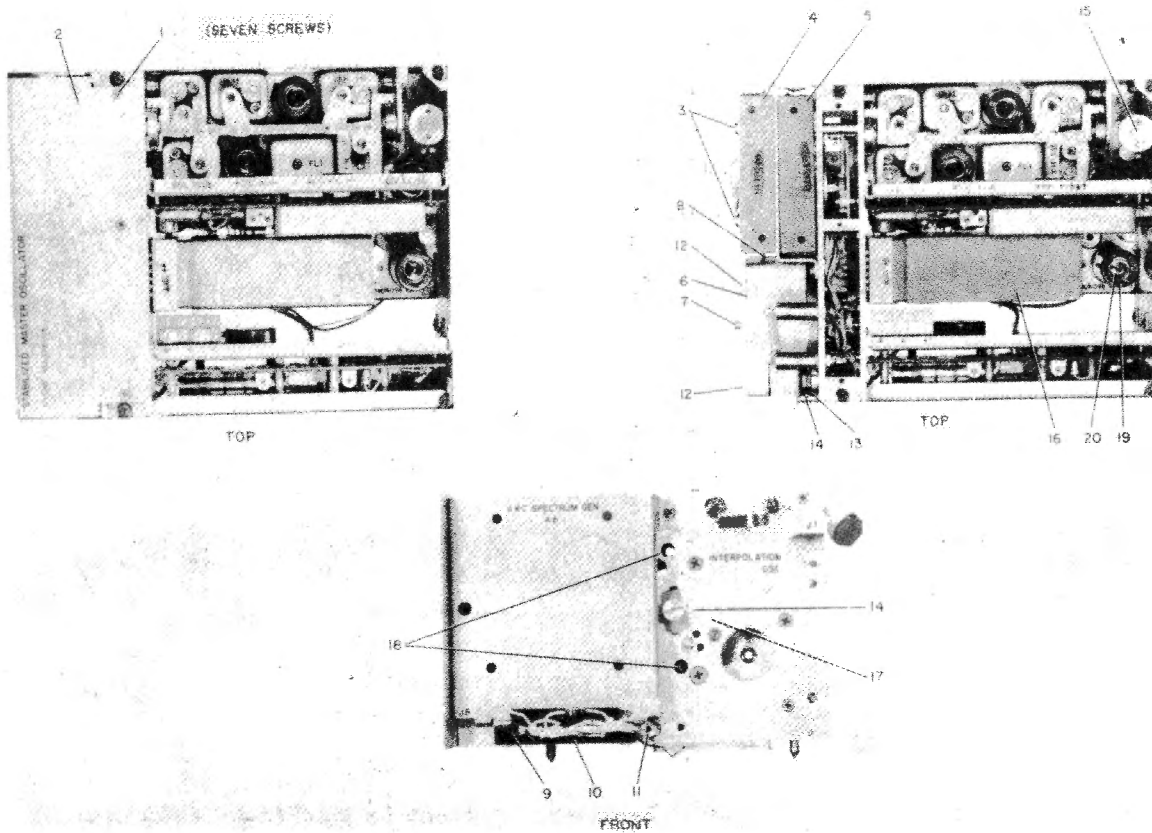

Figure 3-7. Stabilized Master Oscillator, Front and Top Views
a. REMOVING SMO SUBASSEMBLIES. - Refer to figure 3-7 and proceed as follows:
(1) Remove the seven flathead screws (1) that mount the shield cover (2) on smo module.
(2) Remove the four captive mounting screws (3) on the 4-kc spectrum generator (4), i-f mixer, and signal i-f amplifier (5), and pull the subassemblies out carefully.
(3) Turn the interpolation oscillator (6) shaft (7) clockwise to the low-frequency end stop.
(4) Disconnect the coaxial leads (8) from pin E (shield) and pin F (center conductor) of J8 (9) and pin D (shield) and pin E (center conductor) of J5 (10). Remove the two ties holding the coaxial leads to the standoff (11).
(5) Loosen the two captive mounting screws (12) in the interpolation oscillator (6).